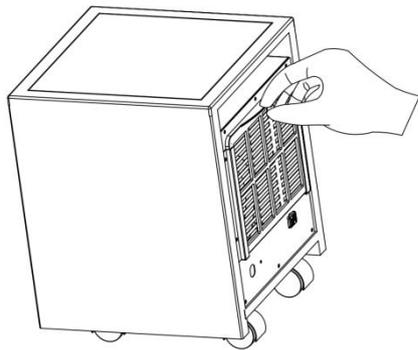
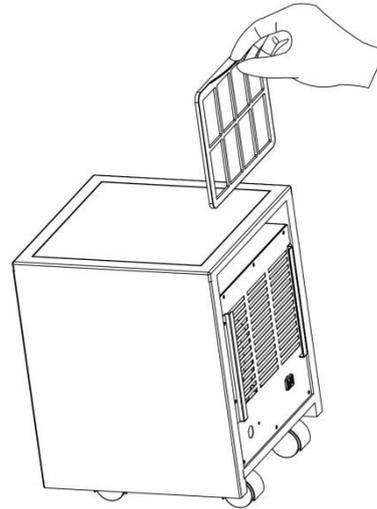

Figure 1
Figure 2
3. Release the filter by pushing the filter up from below (Figure 1).
4. Remove the filter by pulling up and out (Figure 2).
6. Replace the filter by sliding the top downwards into the designated slot on the back of the heater (Figure 2). Then gently push the bottom of the filter into place (Figure 1).